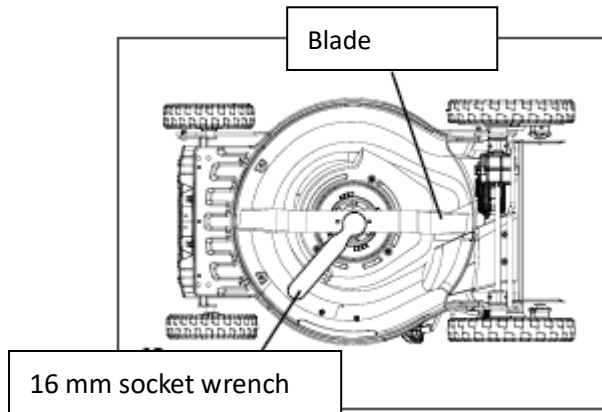

Fig. 14
- Then carefully remove the blade (see Figs. 14 & 15).